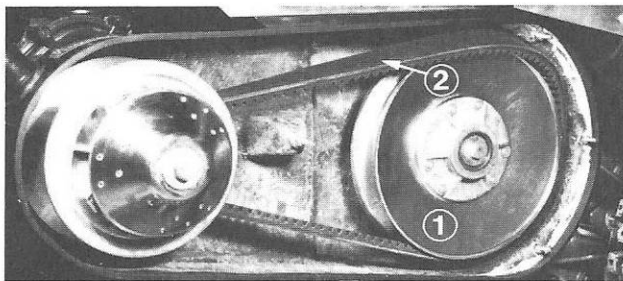

Fig. 59 ① Driven Clutch ② Drive Belt
5. Ease the belt over the fixed edge of the driven clutch (Figure 59).
2. Ease the belt over the edge of the fixed face of the driven clutch (Figure 59).